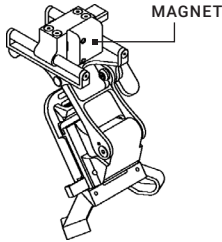

FIGURE 2-10. LOCATING THE MAGNET
- If the magnet is not removed, contact Customer Support for instructions on returning the ruggedized metal helmet mount for magnet removal. Figure 2-10 shows the location of the magnet.